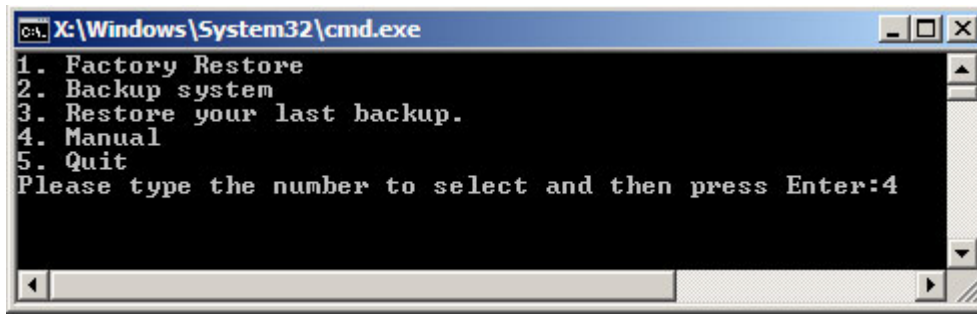

Figure C-8: Recovery Tool Menu
Step 2: The recovery tool menu appears. Type <4> and press <Enter>. (**Figure C-8**)